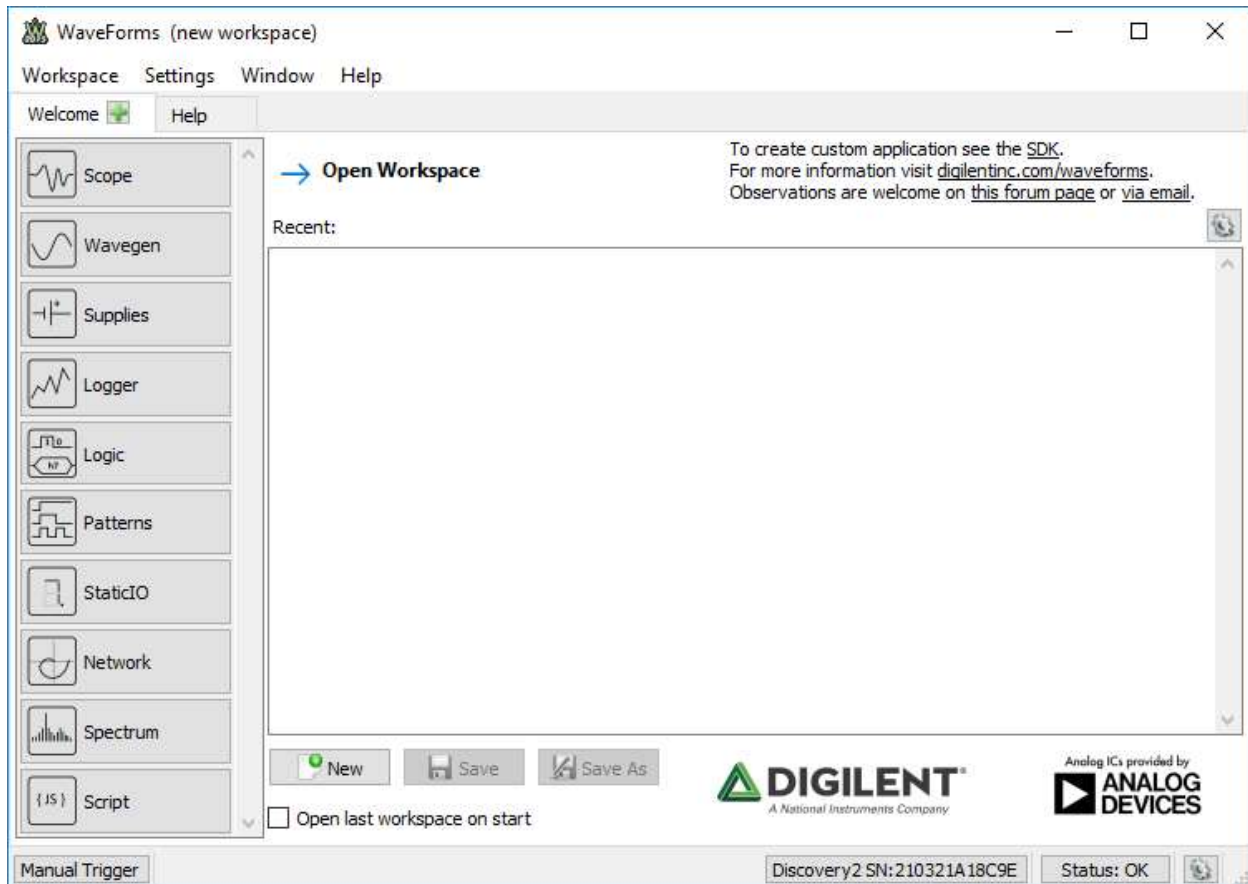

Figure 4: The Waveforms Instrument Panel
1. **Start** Waveform. The software will present you with an instrument panel if an Analog Discovery 2 or Analog Discovery 1 instrumentation kit is connected. These kits can be checked out from EECS Tech Support. The instrumentation panel is shown in Figure 4. Each instrument has a push button that opens its control panel. Also note the bottom status bar. In Figure 4, the status is reported as “OK” because an Analog Discover kit is connected to the computer and functioning properly.